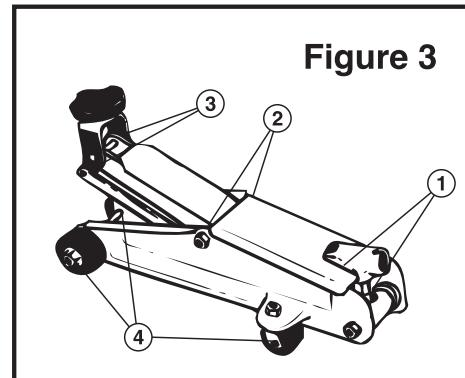

Figure 3
5. Keep jack clean and well lubricated at points illustrated in figure 3.